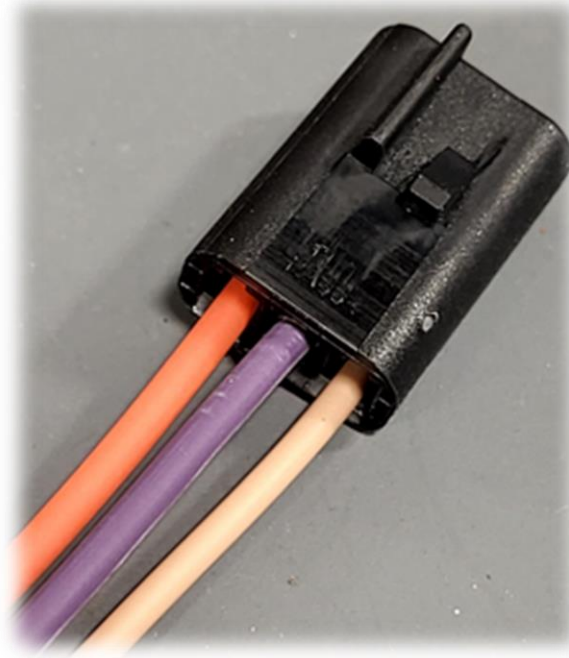

Figure 31
27. Now that the wires removed from the OBD2 port have their terminals modified we can insert them into the connector in the kit labelled 'OBD2 IN'. Insert them as shown in Figure 31. Pin A – Tan, Pin B – Purple, Pin C – Orange.